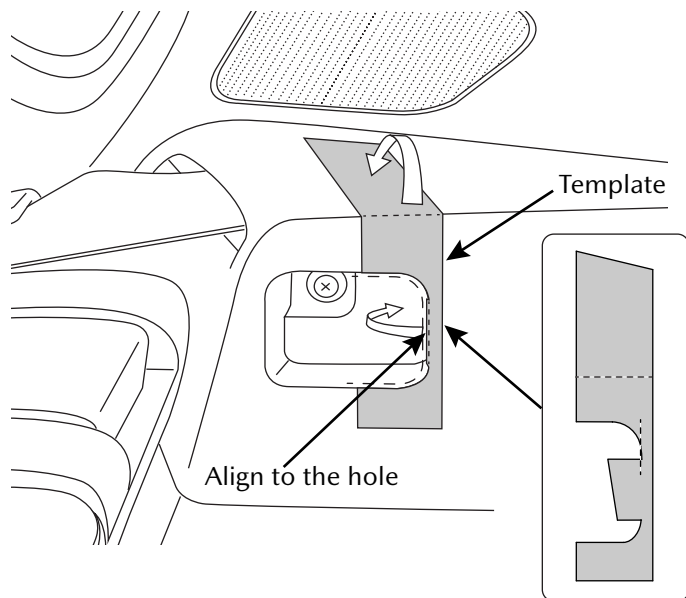

Figure 1
- C. Place the die cut templates into position at the rear quarter panel, aligning to the hole (Figure 1).